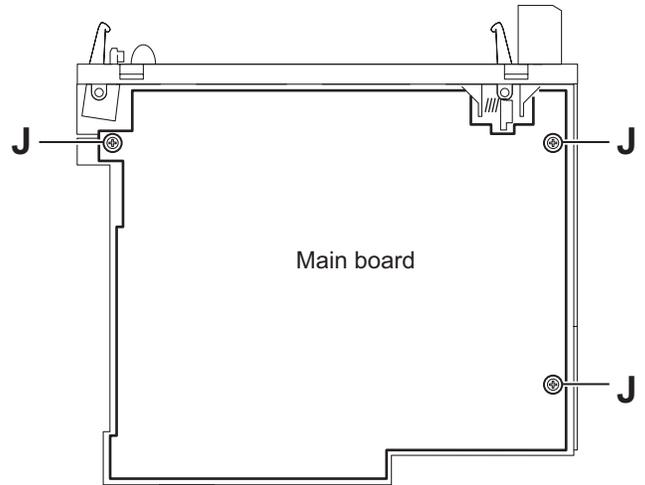

Fig.7
- Remove the three screws **J** attaching the main board. (See Fig.7)
- Disconnect the connector CN961 and take out the main board. (See Fig.7)